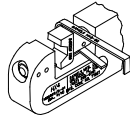

FIG. 3
2. Activate the tool until the movable die extends, but the tool does not cycle fully. Slide the die removal tool between the die and tool body. (See Figure 3) Press the emergency release button to retract the